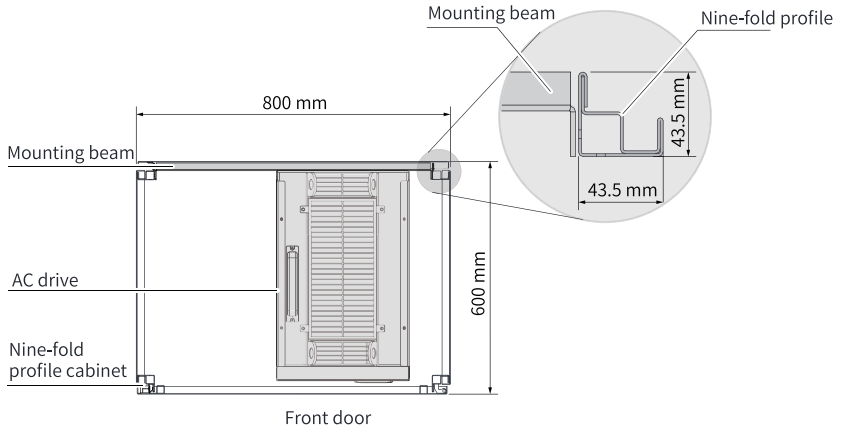

Figure 2-19 Top view of a cabinet for T10 and T12 models
*"Figure 2-19 Top view of a cabinet for T10 and T12 models" on page 46* shows the cross sectional area of the nine-fold profile.